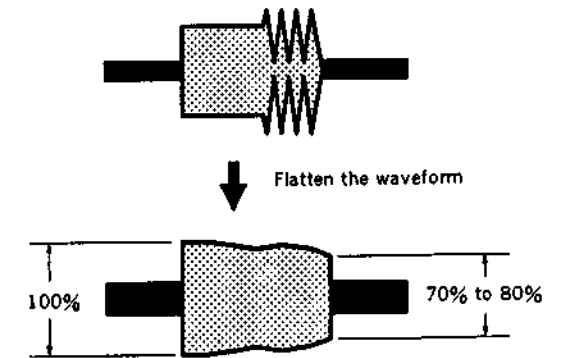

Fig. 3
(3) Turn the No. 5 Guide clockwise and flatten the RF waveform at the exit side. (fig. 3)